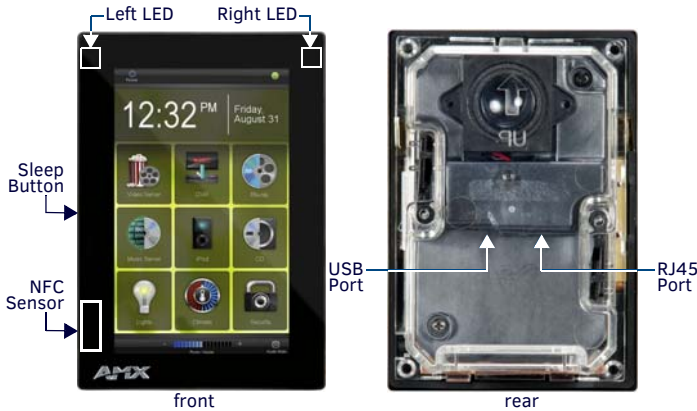
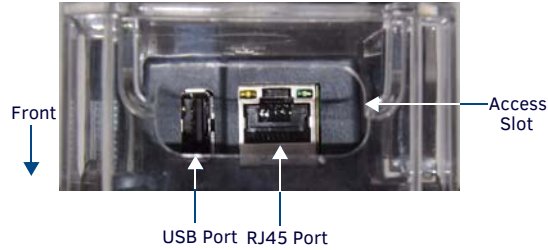
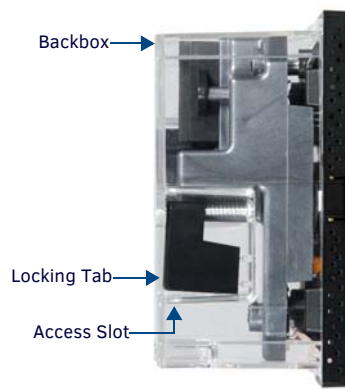

FIG. 1 MXD-430
FIG. 2 BOTTOM VIEW - SHOWING RJ45 AND USB PORTS
FIG. 3 MXD-430 BACK BOX (SIDE VIEW)
USB peripherals (mouse, keyboard, etc.) may be connected to either of the two USB ports on the rear of the device (see FIG. 1). The connectors are accessible via the Access Slot shown in FIG. 2, and FIG. 3.
The incoming Ethernet cable should be connected to the RJ45 port on the MXD-430 (FIG. 2).
These locking tabs are only extended AFTER the Backbox is inserted into the wall (FIG. 3)..
- Remove the knockout from the backbox to open the access slot (FIG. 3), and thread the incoming wiring through the hole
- For additional strength, #4 mounting screws (not included) may be secured via mounting holes located at the corners of the MXD-430 (see FIG. 1). In order to prevent damage to the touch panel, make sure that any screws used are flush with the back box, and the back box goes freely into the opening.